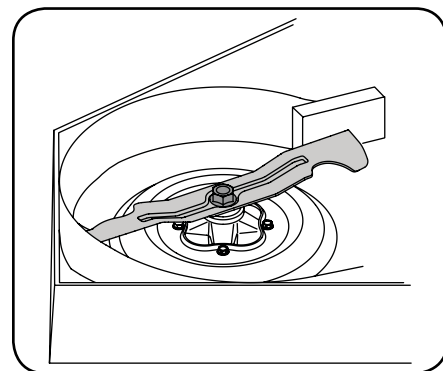

Figure 4-20
2. Use a 1-1/8" wrench to hold the hex nut on top of the spindle assembly when loosening the bolt securing the blade. A block of wood may be placed between the deck housing and the cutting edge of the blade to help in breaking loose the hex nut securing the blade. See Figure 4-20.